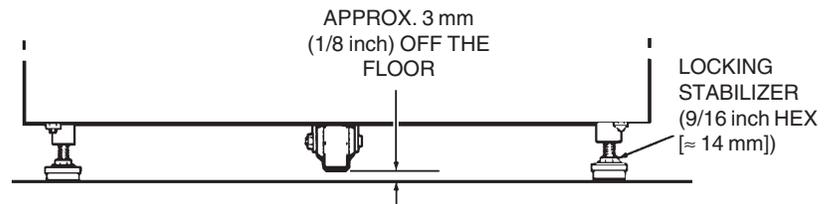

Figure 2-3. Front Locking Stabilizer Adjustment
- By hand, lower the two locking stabilizers in the front of the centrifuge until they lightly contact the floor. Use the 9/16-inch wrench (supplied with the centrifuge) to rotate each stabilizer an additional two revolutions. This will raise the front caster about 3 mm (1/8 inch) off the floor. Check that the centrifuge does not rock on its four support points, the two front stabilizers and the two rear casters (see figure 2-3). *Read the CAUTION.*